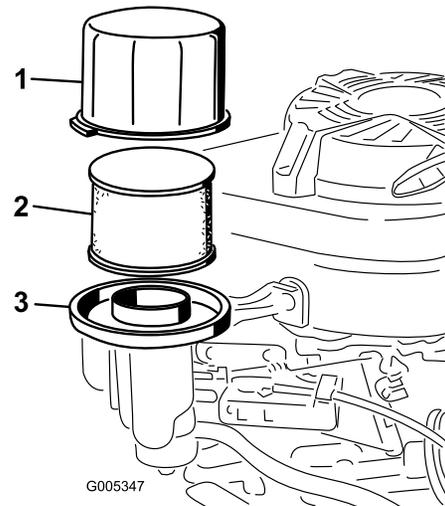

Figure 24
3. Remove the cover and clean it thoroughly (Figure 24).
4. Remove and inspect the paper air filter (Figure 24), and discard it if it is excessively dirty.
5. Remove the foam pre-cleaner and wash it with a mild detergent and water, then blot it dry (Figure 24).